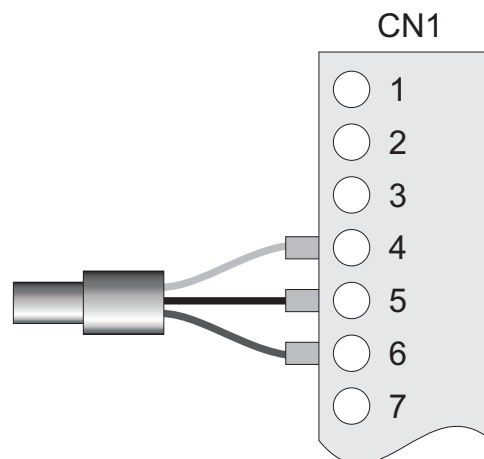

Figure 291: Mains Cable Wiring
3. Connect the Mains Cable to Terminal Block CN1 as shown in Figure 291.